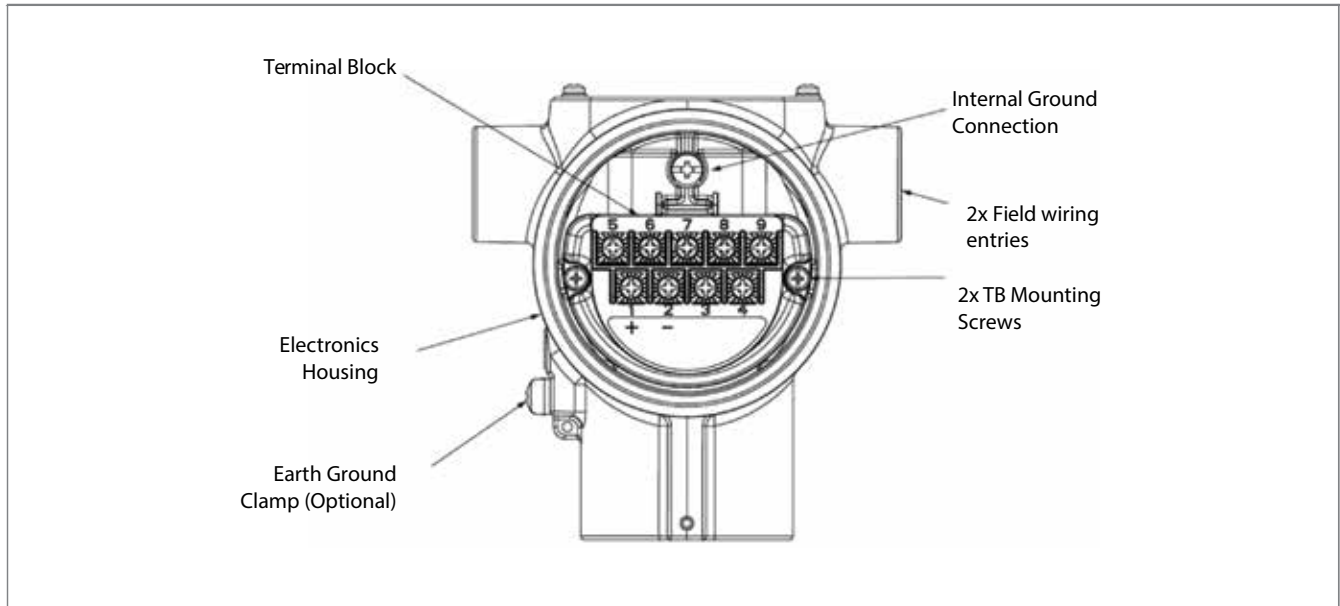

Fig 4: Terminal Block and Grounding Screw location
- Please consider, or screw location is shown in figure 4.